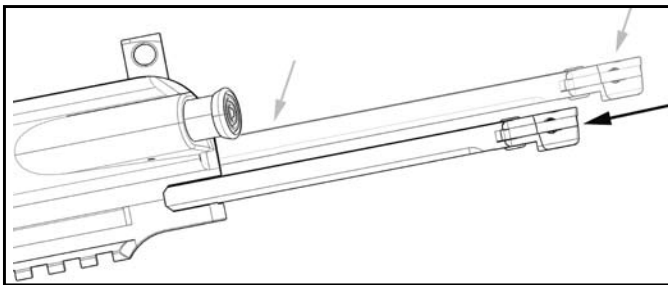

Fig. 48 – Charging Handle Installation
- h. Turn the upper receiver upside down, insert the charging handle into the upper receiver, align the lugs on the outsides of the charging handle with the recesses on the inside of the upper receiver then press down until the charging handle is flush with the inside of the receiver then press slightly forward (Fig. 48).